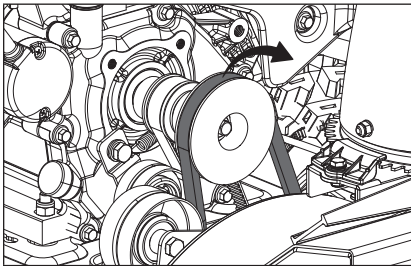

Figure 62
- Slip the old auger drive belt off the engine pulley. (Fig. 62)